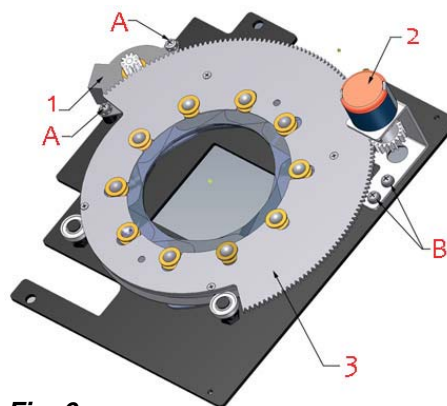

Fig. 6
- Loosen the 2 screws **A** on the motor support and adjust play between the gear and the iris, see **Fig.6**
- Loosen the 2 screws **B** on the motor support and adjust play between the gear and the iris, see **Fig.6**